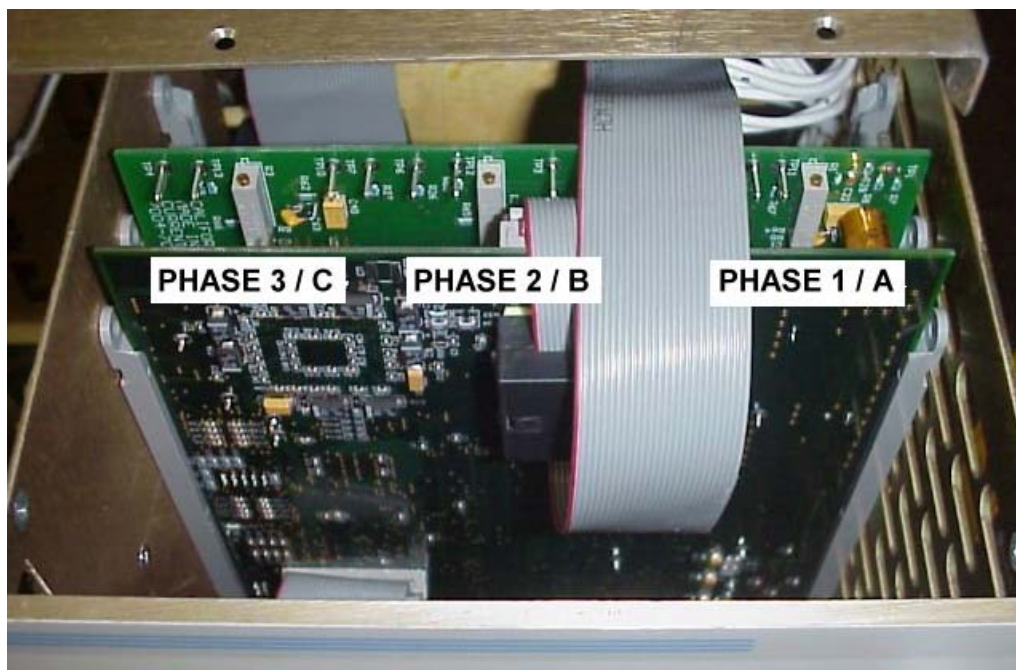

Figure 6-1: Location of Gain pot adjustments and TP1 through TP4
2. Loosen the top cover and slide back until the Current Limit board assembly (P/N 7004-703-1) is uncovered. This is the vertical board directly behind the CPU/Controller board. Refer to Figure 6-1.